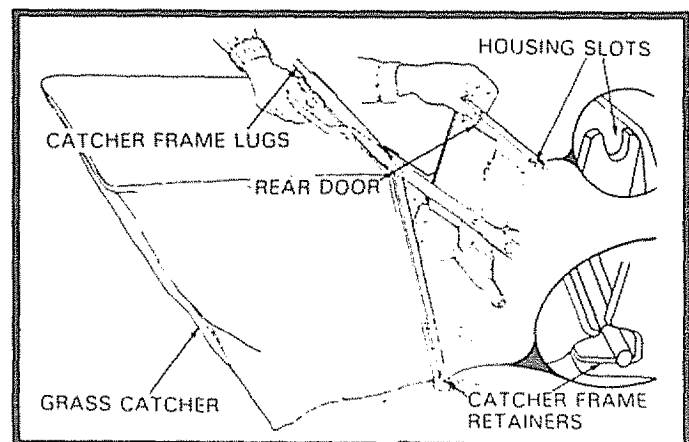

FIG. 6
- Open the Rear Door (red door with knob) and hold open as shown in fig. 6.
- Lift up the Catcher and align the Lugs on the Catcher Frame with the Slots in the top rear of Housing as shown in fig. 6.
- Slide the Grass Catcher down into the Slots and the Retainers at the bottom rear corners of Housing (See Fig. 6).